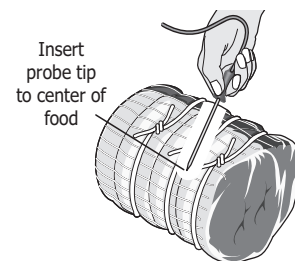

Figure 24: Probe in thickest area of food
- Insert the probe so that the probe tip rests inside the center of the thickest part of meat or food (See Figure 24). For best results, do not allow the probe temperature sensor to contact bone, fat, gristle, or the cookware.